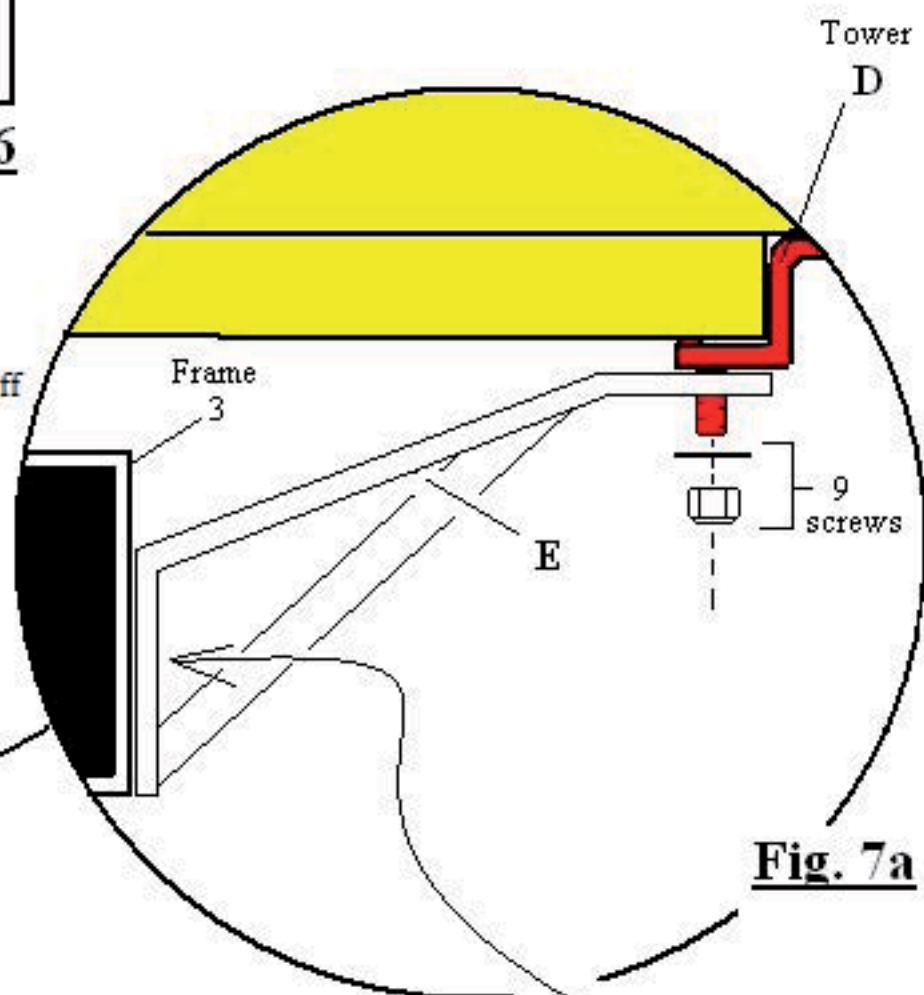

Fig. 7a
- 9- Refer to page 5 Fig. 7 and select the passenger side support plate (E) indicated by either a stamp or sticker placed on the Support Plate located in your hardware kit. Without using any hardware place support bracket (E) as shown in Fig. 7 and Fig. 7a under Tower (D) over screws (9) and flat onto the rear body frame (3). Check that the screw holes in vehicle frame (3) are in alignment with the mounting holes of support plate (E) at the same time that support plate (E) is flat under Tower (D). If you have to tilt support bracket (E) in order to line up mounting holes to the vehicle frame screw holes (3) you will have to re-adjust Tower (D) so that support bracket (E) lays flat along the bottom of Tower (D) and all holes line up. If Tower (D) should need to be moved swing either towards the front of the vehicle or the rear to correct the alignment but always keep the top of the Tower in alignment with vehicle body seam (12). After you have confirmed alignment completely tighten the two clamp 3/8 hex head screws, lock washers and flat washers (8) of Tower "D" using a 9/16" Socket or Box end wrench. Attach Support plate (E) to the underside of passenger side Support Tower (D) as shown in Fig. 7a using two 3/8 flat washers and Nylock nuts supplied in Bag #2 of your hardware kit referred to as (9) on Fig. 7a, finger tighten only at this time. Continue by installing "L" bracket (4) over support bracket (E) using bolts (1) as shown in Fig. 7a, finger tighten only at this time.